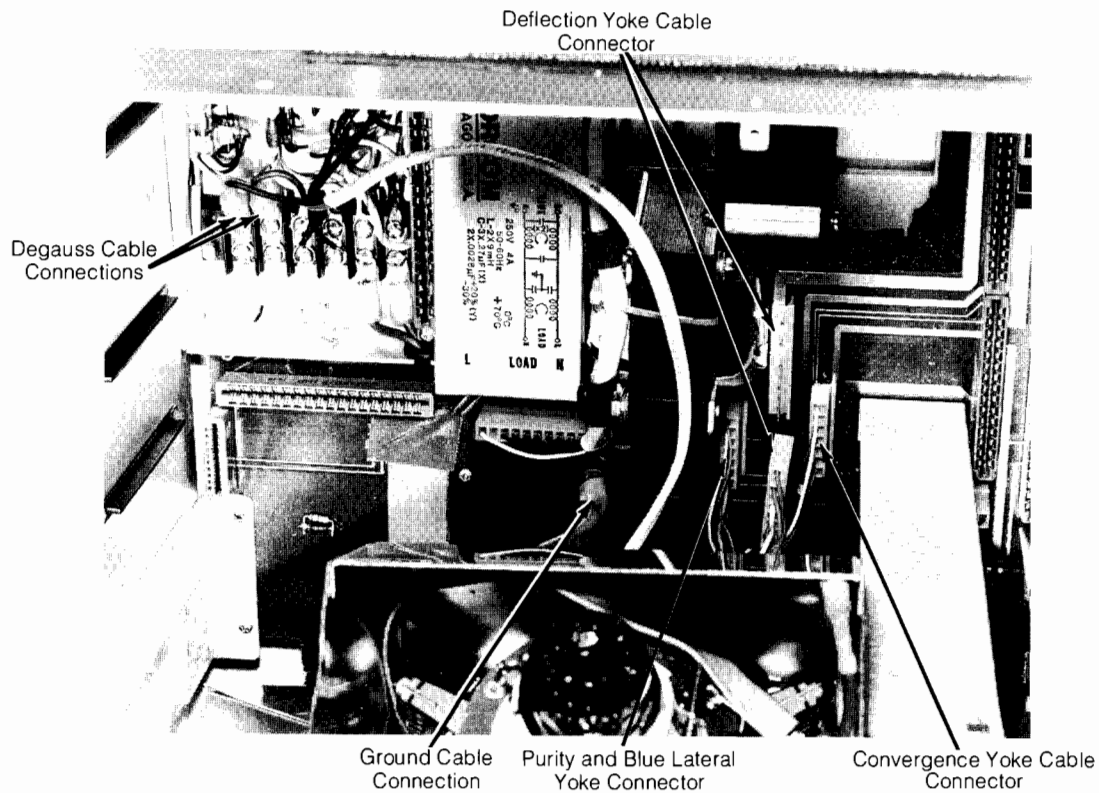

Figure 5-9. CRT/Yoke Cables
- Tilt the top of the CRT assembly forward and disconnect the yoke cables, grounding strap and degauss connector shown in Figure 5-9.